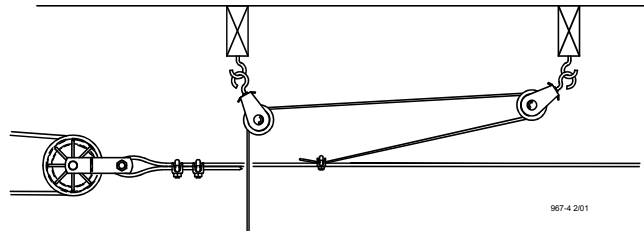

Figure 20. "Throwback" cable arrangement
3. Allow enough cable length for installation of the Adjustment Leveler. Sufficient cable is included to provide "throwbacks" on drops located beneath and near the winch. **Figure 20** shows a "throwback" cable arrangement.